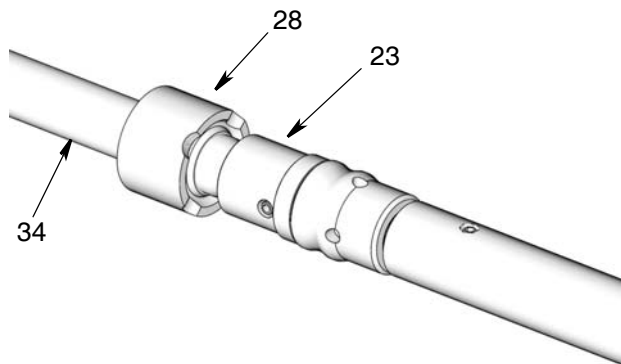

Fig. 20
- Screw the piston rod (23) and priming rod (34) together aligning the pin hole in both pieces to allow the pin to be pushed through (Fig. 20).
- Replace the pin (8). Use a rubber hammer to tap the pin into place, being careful to make sure the sides of the pin are flush with the outside surface of the piston rod (Fig. 20)
intake seal on the priming rod as shown in Fig. 20.